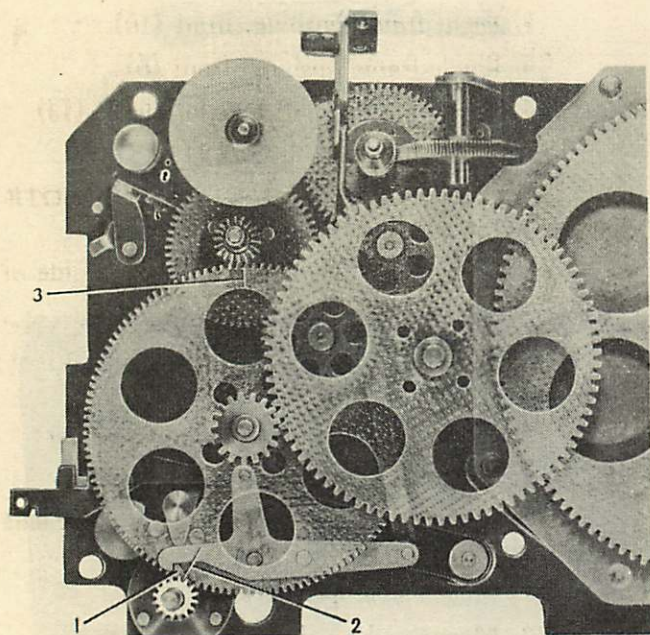

Figure 27—Phantom View Showing Timing Marks
(b) Place the hole in the stop lever (4, figure 22) over the stud with the bracket end extending toward the top edge of the plate and between the 45-tooth gear studs as shown in figure 27. Swing the lever sufficiently to hook the end of the spring over the stud extending down from the stop lever.
(7) SINGLE-FRAME SHAFT COMPLETE.—Place the single-frame shaft complete (1, figure 22) into the single-frame shaft bushing. Turn the shaft until the stop is against the notch in the stop lever as shown at (1) in figure 27. *Hold the shaft in this position while replacing the remaining gears.*
large gear toward the *front* of the mechanism plate (away from the motor). Align one scratch mark (2, figure 27) with the mark on the tooth of the small pinion on the single-frame shaft as shown in figure 27.
(9) **CLUTCH SHAFT COMPLETE.**—Place a drop of oil (Oil, Castor, Specification No. AN-JJJ-0-316) on the clutch spring, spread the coils slightly with a small screwdriver and permit the oil to work into the shaft. Place the gear of the clutch shaft (14, figure 22) under the large eight-frame gear and insert the end of the shaft into the bearing. Align the scratch mark on the clutch shaft collar with the remaining scratch mark on the eight-frame shaft (3, figure 27). Do not permit the single- or eight-frame shafts to turn.
(1) Attach the winding crank and wind the motor several turns to bring the stop on the single-frame shaft against the notch in the stop lever as shown (1, figure 27).
(2) Separate the mechanism plates at the front end just enough to disengage the shutter and clutch gears.